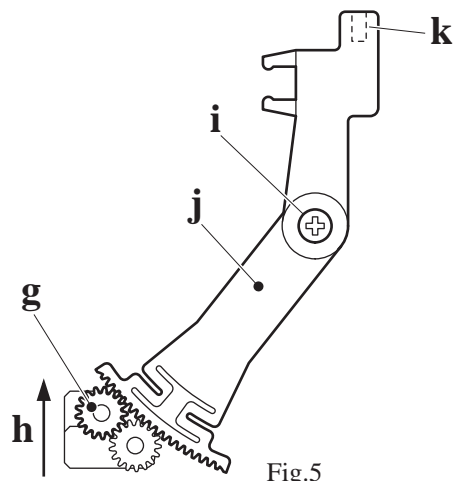

Fig.5
4. Insert Blue & Yellow Decorative Thread Guides into setting hole of DECO gear and tighten slightly with set screws located inner part of small hole. (Fig.5-k and 6-k)